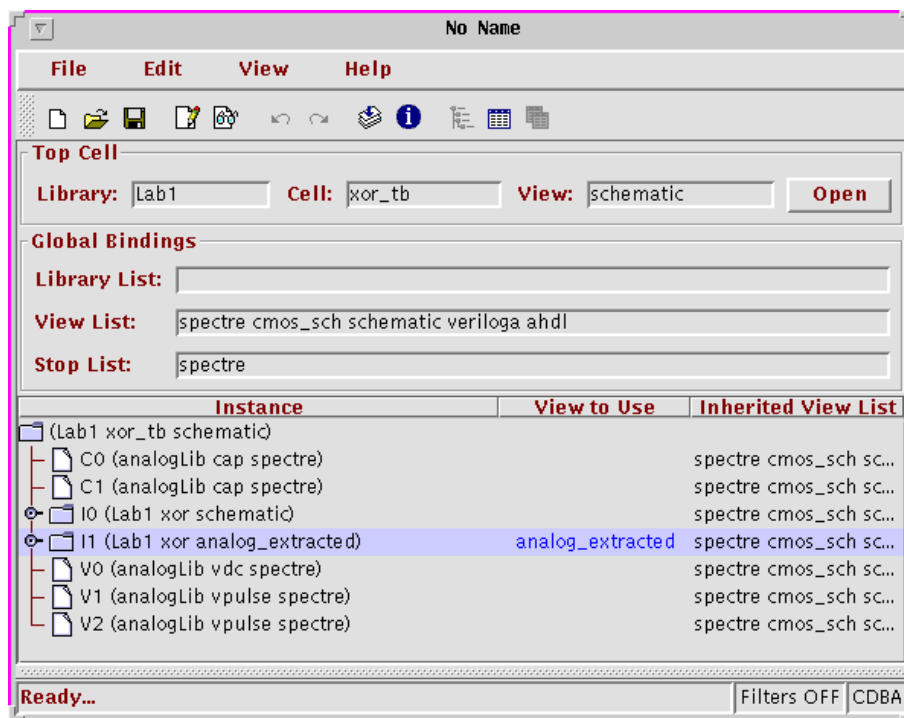

Figure 6.4: The Hierarchy Editor.
- A tree structure presentation is usually preferable and the window is changed by *View > Tree*, after which it should look like the one in fig. 6.4.